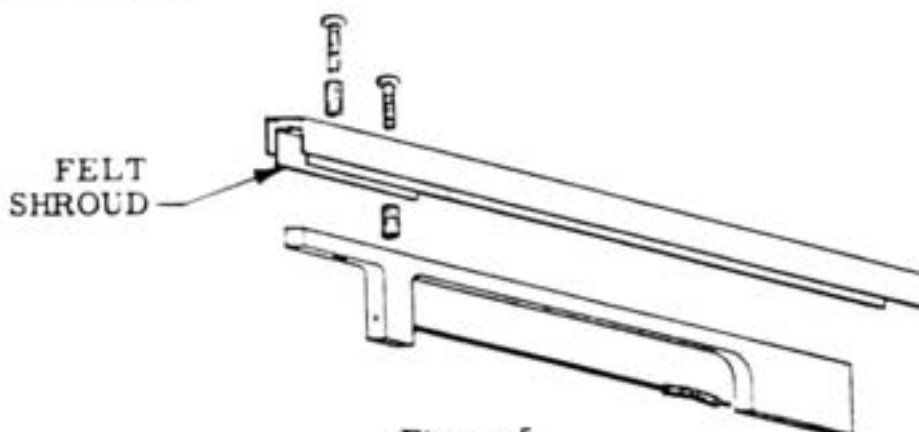

Figure 5
1. In the original Piano, the Tone Bar Assembly (tuning fork) was a single piece of cast iron which was suspended in a metal channel. The bottom leg was a length of piano wire of a diameter of .075". (See Figure 5).